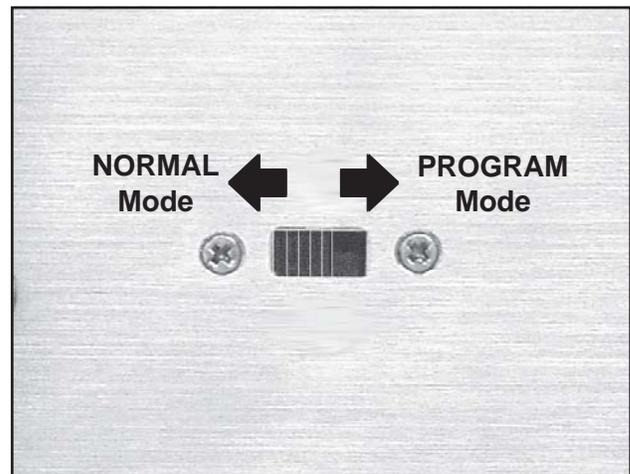

Figure 27. Mode Switch Positions
The Mode switch has two positions (Figure 27):
To leave the User Setup Menu, move the Mode switch to the left (**NORMAL**) (Figure 27). Replace and secure the Mode switch cover.
8. On the rear of the display console, move the Mode switch to the left (**NORMAL**) (*Figure 27*).
8. On the rear of the display console, move the Mode switch to the left (**NORMAL**) (Figure 27).